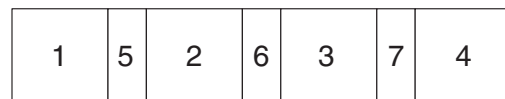

Figure 28. Sequence of cuts.
10. When making rectangular mortises, follow the sequence of cuts shown in **Figure 28**. Position the chisel over the center of cuts 5, 6 and 7, since these only use part of the chisel.